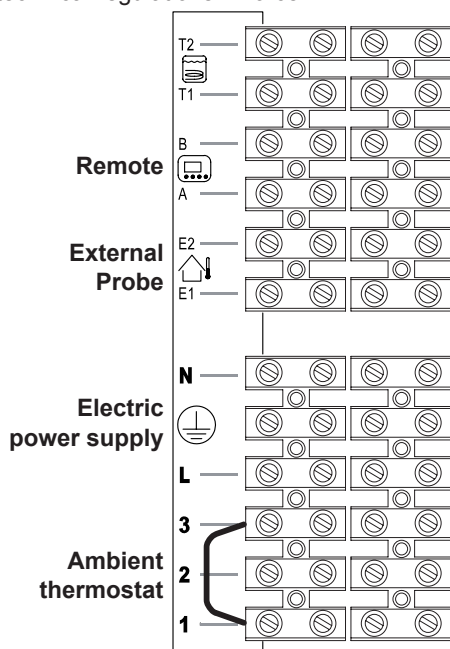
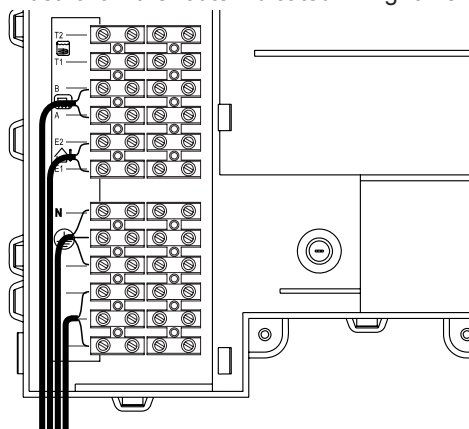
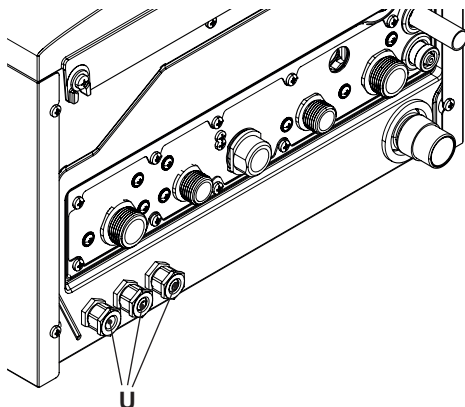

Fig. 6.17
Fig. 6.18
Fig. 6.19
- Connect the electric power supply cable coming from the fused spur isolation switch to the power supply terminal block of the boiler Fig. 6.17 keeping the same connections for the live (brown wire) and the neutral (blue wire). External 3A fuse or fused plug with same current rating is recommended.
The route of the boiler and ambient thermostat's electric power supply cable or wires must follow the route indicated in Fig. 6.18.
Allow the cables to exit the boiler by using the relevant cable clamps "U" (Fig. 6.19).
Use the clamps indicated in Fig. 6.17 to connect the ambient thermostat.
Use the ambient thermostat's clamps indicated in Fig. 6.17 and Fig. 6.18 to connect the zone valve. Insert the electric cables of the zone valve's micro switch contacts in clamps "1 and 3" of the ambient thermostat's terminal block as in Fig. 6.18.
The route of the boiler and ambient thermostat's electric power supply cable or wires must follow the route indicated in Fig. 6.18. Allow the cables to exit the boiler by using the relevant cable clamps "U" (Fig. 6.19).
The route of the external probe's connection wires must follow the route indicated in Fig. 6.18.
The route of the remote control cable must follow the route indicated in Fig. 6.18. Allow the cables to exit the boiler by using the relevant cable clamps "U" (Fig. 6.19).